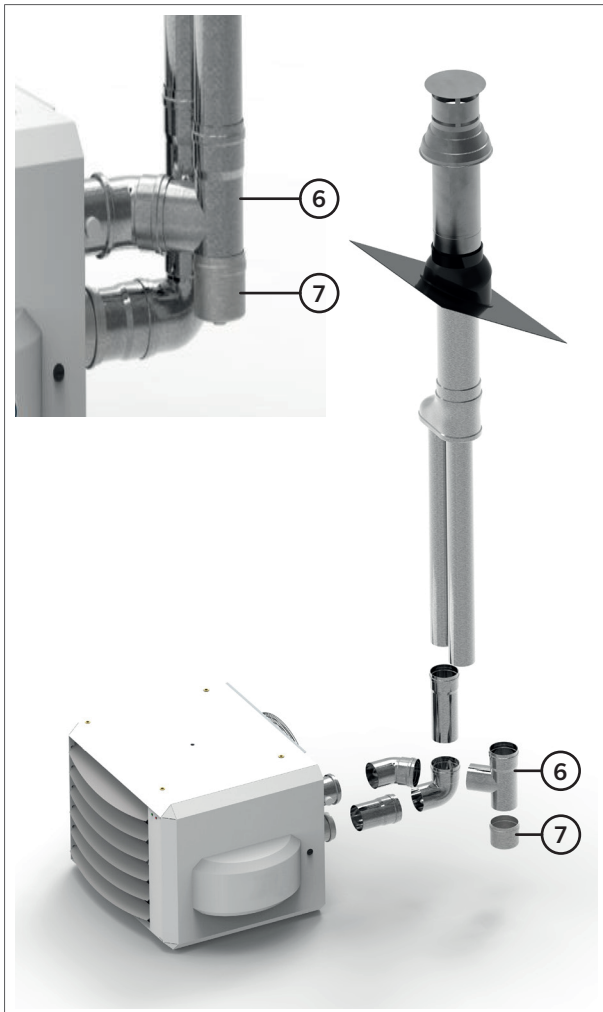

Figure 20 - A T-piece (6) and condensate trap (7)
- Add a T-piece (figure 20).
- Place a condensate trap (figure 20).